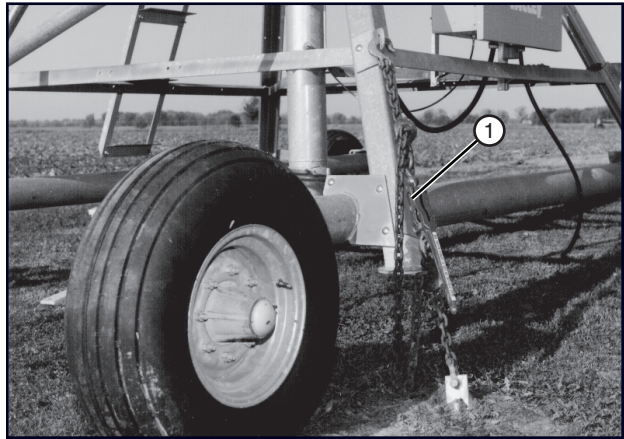

Figure 56-2 1. Load binder
9. Remove the load binders at each corner of the pivot. See figure 56-2.